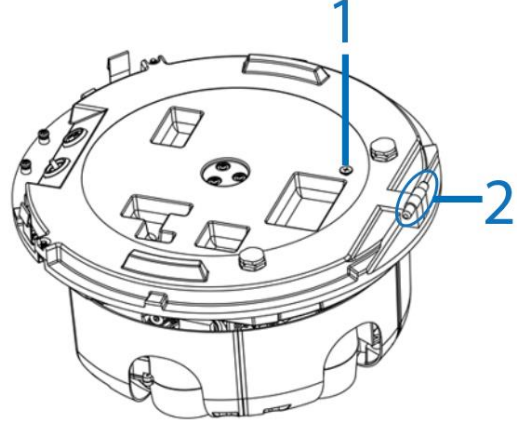
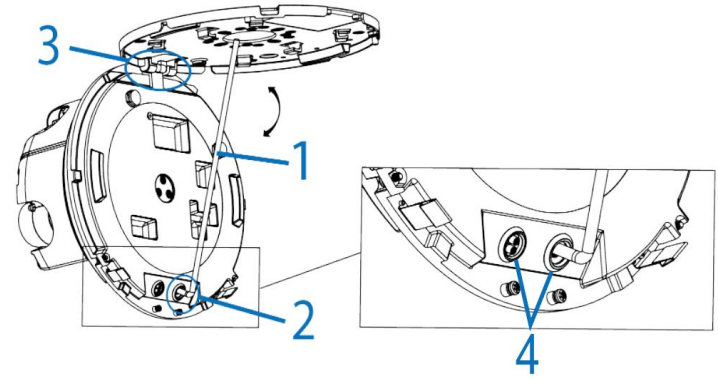
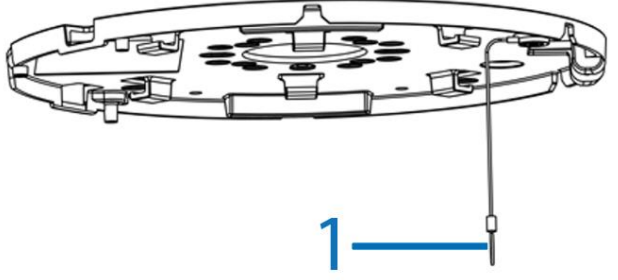
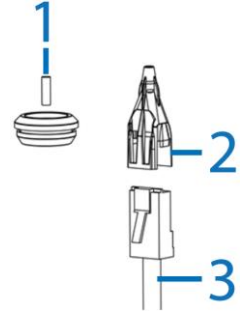

Figure 6
Figure 8
Figure 5
Figure 7
8. Insert the 'hinge pins' (2) (Figure 6) on the camera module lens into the 'hinge knuckle' on the mounting plate. **'3' in Figure 8 identifies how the camera lens module and mounting plate attach together.**
10. Insert the RJ-45 cable (3) (Figure 7) into the insert tool (2) (Figure 7) remove the rubber grommet (2) (Figure 8) from the camera lens module.
11. Pierce the rubber grommet (1) (Figure 7) by passing the insert tool and cable through the center of the rubber grommet.
7. Hold the camera lens module up to the mounting plate and insert the 'loop' on the safety lanyard (1) (Figure 5) that is attached to the mounting plate to the screw (1) (Figure 6) on the camera lens module.
12. Pass the insert tool and cable (1) (Figure 8) through the rubber grommet hole (2) (Figure 8) on the camera lens module.
**WARNING: Ensure that both rubber grommets (4) (Figure 8) are securely inserted into the camera lens module before operation.**
- Ensure that both rubber grommets (4) (Figure 8) are securely inserted into the camera lens module before operation.